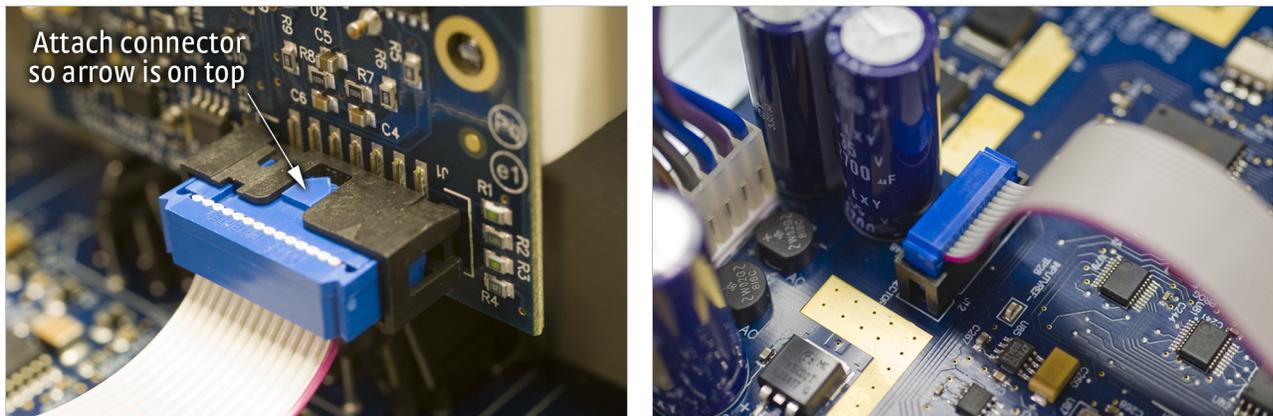

FIGURE 7-3 *Proper orientation of the ribbon cable connector plug*
8. Place the option card into its position in the rear panel from inside the instrument. Orient the card so that the 14-pin ribbon cable connector is toward the bottom of the instrument, closest to the main circuit board (FIGURE 7-3).
12. *This step is not applicable to the 3062 option card.* Insert the 14-pin ribbon cable connector plug into the socket on the option board. Orient the ribbon cable connector plug so that the arrow nub slides into the plug slot, and the ribbon cable exits downward (FIGURE 7-3).